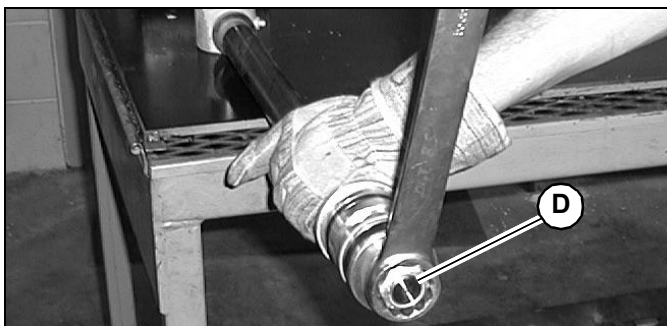

Fig. 174 – Cylinder Rod Locknut Removal
6. Loosen and remove locknut (D, Fig. 174) securing the head gland, seal kit and piston on the cylinder rod.